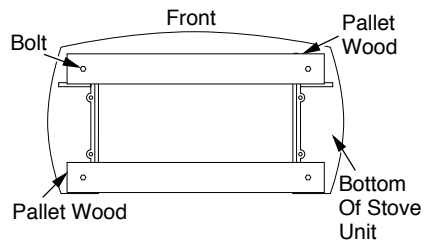

Figure 6 - Removing Pallet Wood From The Bottom of The Stove
6. Remove remaining pallet wood attached to bottom of stove body (see Figure 6). Use an adjustable wrench or 12mm socket to remove bolts.